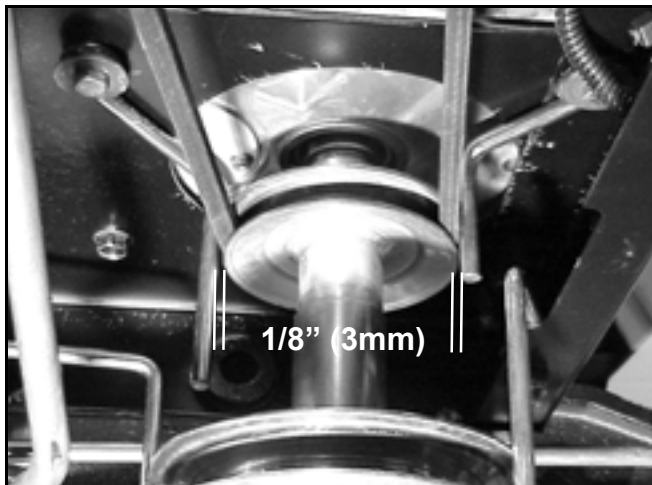

Figure 94
10. Adjust and tighten the right and left engine belt guides so the guides are within 1/8" (3mm) of the belt and pulley (Figure 94).